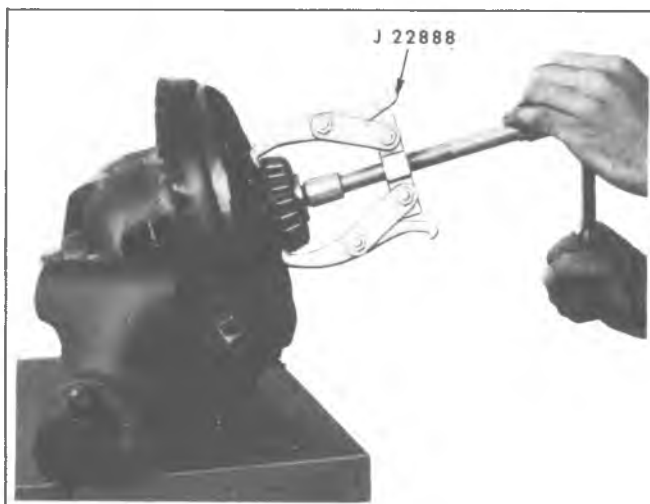

Fig. 3B--Differential Bearing Removal
1. Install Tool J-22888 and Adapter Plug J-8107-4, assuring puller legs are fitted securely in notches in case and against bearing cone, as shown in figure 3B.